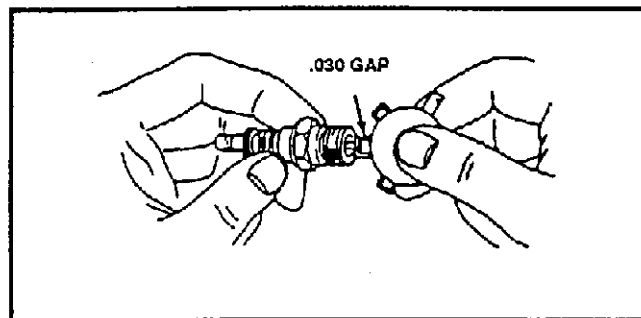

FIG. 17-SERV & ADJ
- Be sure the spark plug is clean and free of foreign material. Check the electrodes gap (See FIG. 17-SERV & ADJ) with a wire feeler gauge and reset the gap to .030 inch if necessary.
- Set the gap between the electrodes of the new spark plug at .030 inch. Next, install the spark plug in the cylinder head. Tighten the plug to 18 to 23 foot pounds. If you do not use a torque wrench, tighten the plug firmly (See FIG. 17-SERV & ADJ).